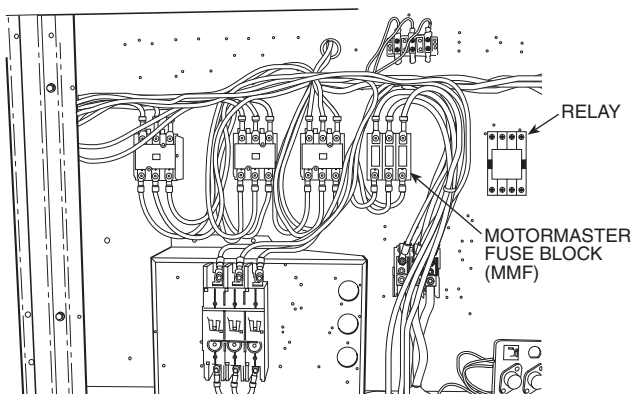

Fig. 6 — 3-Pole OFC
12. Install the accessory relay next to the fuse block installed in Step 5. See Fig. 6.
5. Install the accessory fuse block (MMF) in the same location where the contactor was removed. See Fig. 6.
10. Install the accessory relay next to the location where the OFC was removed. See Fig. 6.